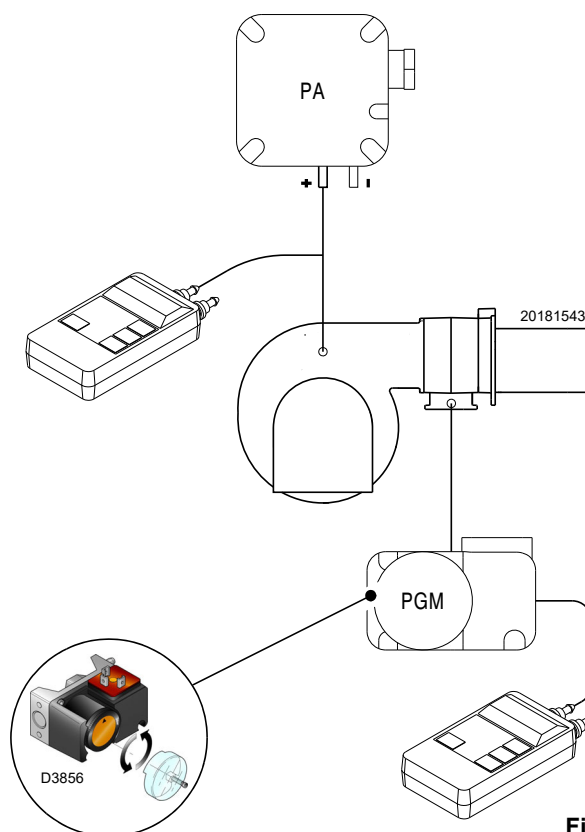

Fig. 29
- Adjust the maximum gas pressure switch (Fig. 29 at page 31) to the end of the scale.
Adjust the maximum gas pressure switch (Fig. 29) after making all other burner adjustments with the maximum gas pressure switch set to the end of the scale.